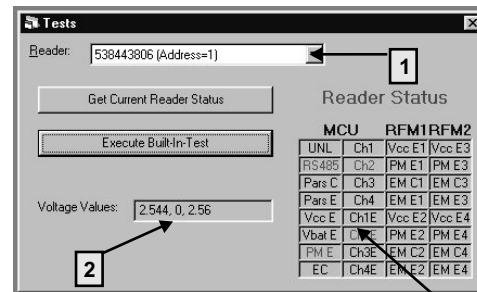

Fig. 7.5
Begin the process by selecting the DataReader to be tested at the box marked as Item 1 in Figure 7.5.
The “Voltage Values” displayed (Item 2 in Figure 7.5) are the actual values measured in the DataReader: The first value (2.544) represents the MCU, the second (0) represents the RF Modem 1 (not installed) and the third value (2.56) represents RF Modem 2.
A detailed explanation of the abbreviations in this window (Item 3 in Figure 7.5) is provided hereunder: